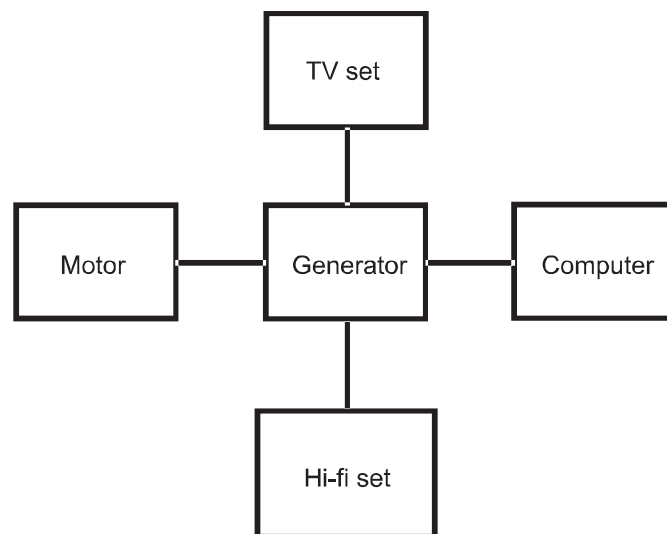
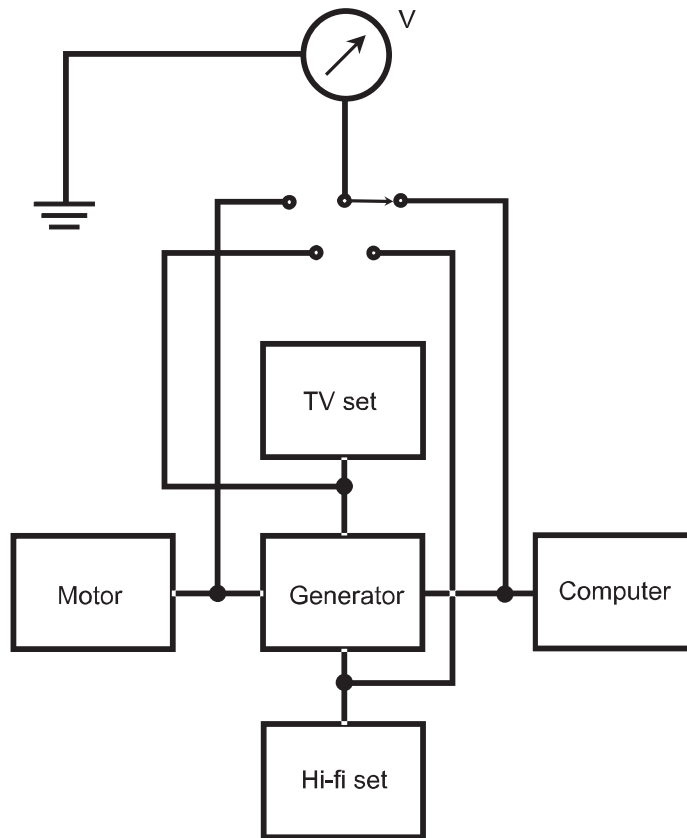

Fig. 1-1. A simple block diagram of an electric generator connected to four common appliances.
Fig. 1-2. Addition of a voltmeter, switch, and ground to an electrical system.
Figure 1-1 is a block diagram that shows an electric generator connected to a motor, a computer, a hi-fi stereo system, and a television (TV) receiver. Each major component is illustrated as a rectangle or a “block.”
The scenario in Fig. 1-1 is simple. None of the lines cross each other. But, suppose we decide to connect an alternating-current (AC) voltmeter to the circuit, and make it switchable so that it can be connected between an earth ground and the input of any one of the four devices receiving power? This will make the diagram more complicated, and we will want to let some of the lines cross.
Figure 1-2 shows how we can illustrate the addition of a voltmeter (symbolized by a circle with an arrow and labeled V), together with a four-way switch (the symbol for which should be obvious). The voltmeter has two distinct terminals, one connected to the ground (the symbol with the three horizontal lines of different lengths) and the other connected to the central pole of the switch.
A block diagram does not, and is not intended to, portray all the details about a circuit. We don't know whether the hi-fi set in Fig. 1-1 or Fig. 1-2 is simple or sophisticated. We don't know what sort of features the computer has. Nor are we told whether the TV set is connected to cable, a satellite system, or a coat-hanger antenna! These details are not shown in the system block diagrams like Figs. 1-1 or 1-2.
It is not always clear how many conductors a cable, when represented by a single line, actually has. There are two lines coming out of the voltmeter in Fig. 1-2; each line represents a single-conductor wire. But among the generator and the four major appliances, the interconnecting lines represent 3-wire cords, not single-conductor wires. The lines running from the switch to the inputs of each of the major appliances, however, do represent single-conductor wires, connected to the voltage-carrying wire or “hot” in each of the four 3-conductor cords.
Why can't we show the 3-wire cords as sets of three lines, all parallel to each other? We can! But one of the main assets of block diagrams is the fact that they show things in as simple a manner as possible. In a complete, detailed schematic diagram of the system shown in Fig. 1-2, we would need to show the 3-conductor cords as sets of three lines running alongside each other. But in a block diagram this isn't necessary. The lines show general electrical paths, not individual wires.
When two wires or cables are to be shown as connected, it is customary to put a dot at the point of intersection. In Fig. 1-2, the dots represent connections between the single wires running from the switch and the “hot” wires in the cords running to the motor, the computer, the hi-fi set, and the TV set.
To which appliance power input is the voltmeter in Fig. 1-2 connected?
Note the position of the arrowed line inside the switch symbol. It runs to the terminal whose line goes to the line representing the power cord for the computer. Thus, the voltmeter in Fig. 1-2 is connected to the computer power input.
Suppose we want to show the direction in which the electrical energy or power “moves” in the system shown by Fig. 1-2. How can we do that?